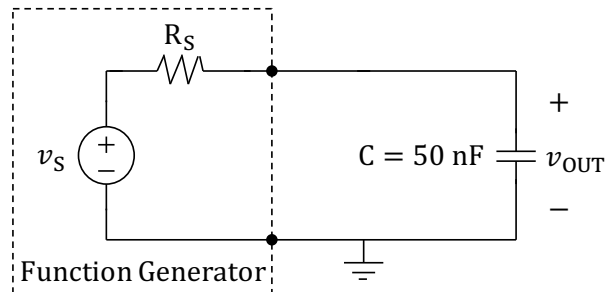

Fig. 1. Function generator with capacitor connected at its output, forming a driven RC circuit.
- (b) **Setup Function Generator and Scope.** Remove the 50 Ω coaxial load termination from the coaxial T-splitter connected at the output of the function generator. Make sure that the function generator is not set to the “High-Z” mode – if High-Z appears on its LCD display, restore the settings of the function generator (press the store/recall button, then press the third from the left gray button which has recall written above it), or ask TA for help. Set the function generator to produce a square wave (push the button with the word “Square” and a squareish shape on it), and set its frequency (Freq) to 1 kHz, its low voltage (LoLev) to 0 V, its high voltage (HiLev) to 5 V (the function generator will actually generate a voltage twice these levels, i.e., 0 V and 10 V), and its duty cycle (DtyCyc) to 50%. The function generator is like a Thevenin voltage source v_S with a Thevenin resistance (output impedance) R_S (see Fig. 1).
- (c) **Assemble Circuit.** Using a proto-board connect the 50 nF capacitor across the output of the function generator, forming the driven RC circuit shown in Fig. 1. Connect oscilloscope probe so that channel 1 measures the voltage v_{OUT} across the capacitor.